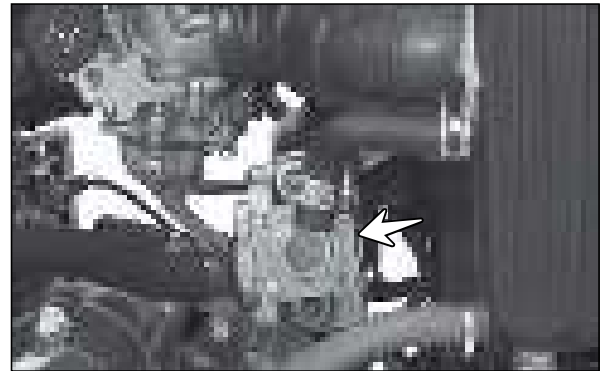

Fig. 4.45
- Secondary air injection valve is mounted on the frame below the fuel tank near the air cleaner assembly. (Fig. 4.45)